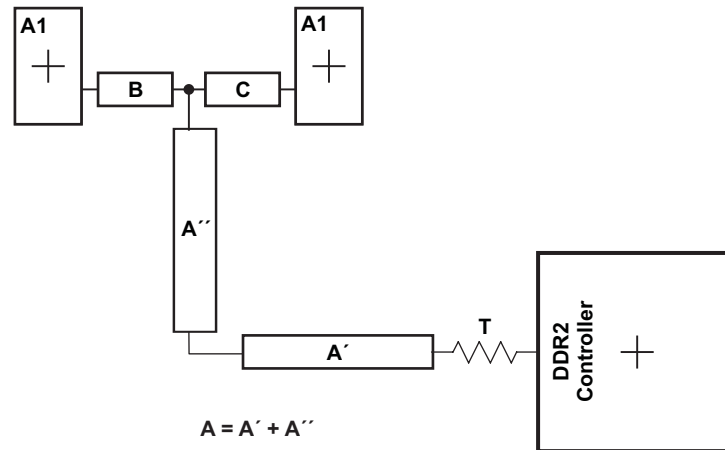

Figure 8-53. CK and ADDR_CTRL Routing and Topology
Figure 8-53 shows the topology of the routing for the CK and ADDR_CTRL net classes. The route is a balanced T as it is intended that the length of segments B and C be equal. In addition, the length of A ($A' + A''$) should be maximized.
- (1) The length of segment A = A' + A'' as shown in Figure 8-53.
(2) Series terminator, if used, should be located closest to the device.
(3) Center-to-center spacing is allowed to fall to minimum (2w) for up to 500 mils of routed length to accommodate BGA escape and routing congestion.
(4) CACLM is the longest Manhattan distance of the CK and ADDR_CTRL net classes.